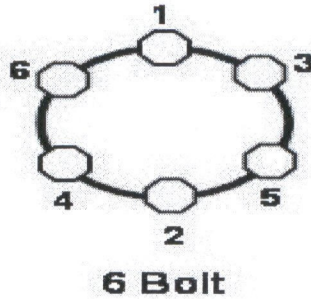

Figure 5
- Step 3 You must use the star pattern and torque wrench when tightening the lug nuts to the wheel. This sequencing pattern shows how to progressively tighten the lug nuts to best achieve the proper torques and clamp load. See figure 5.
- Step 4 Using the star pattern outlined in Figure 5, tighten the lug nuts until the 1st stage torque (20-25 ft-lbs) outlined in Figure 6 is achieved. Verify the lug nuts are properly positioned in the tapered seats of the wheel.
- Step 5 Using the star pattern outlined in Figure 5, tighten the lug nuts until the 2nd stage torque (50-60 ft-lbs) outlined in Figure 6 is achieved.
- Step 7 Using the star pattern outlined in Figure 5, tighten the lug nuts until the 3rd and final stage (110-120 ft-lbs) is achieved. See Figure 6.
- Step 1** Make a copy of the Customer Acknowledgment sheet on the next page. While reviewing the document with the customer, use a torque wrench to demonstrate the processes outlined in Figure 5 and Figure 6 on their unit. The proper break-in procedures must be followed.